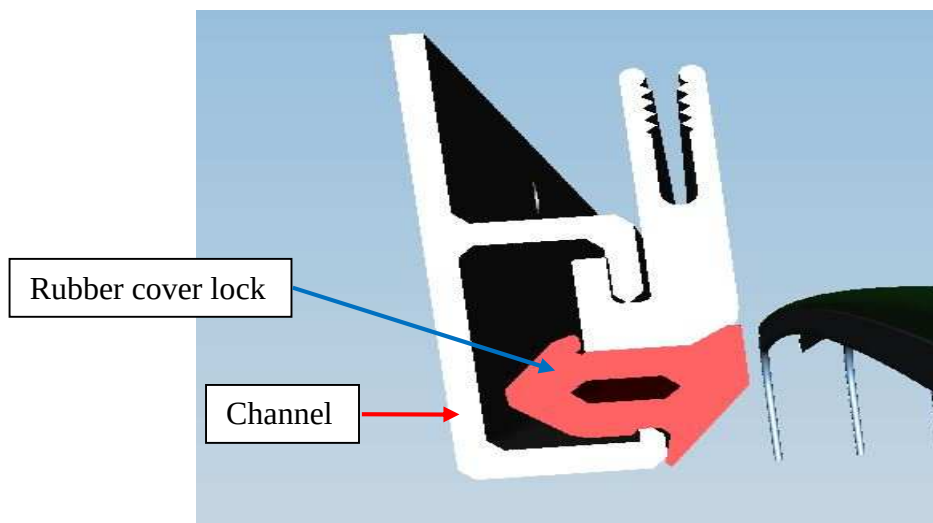

Figure 1: Rubber cover lock.
- a. Remove the rubber cover lock from the channel that attaches the false ceiling bellow to the center hoop frame and to the front and rear structure. Figure 1.